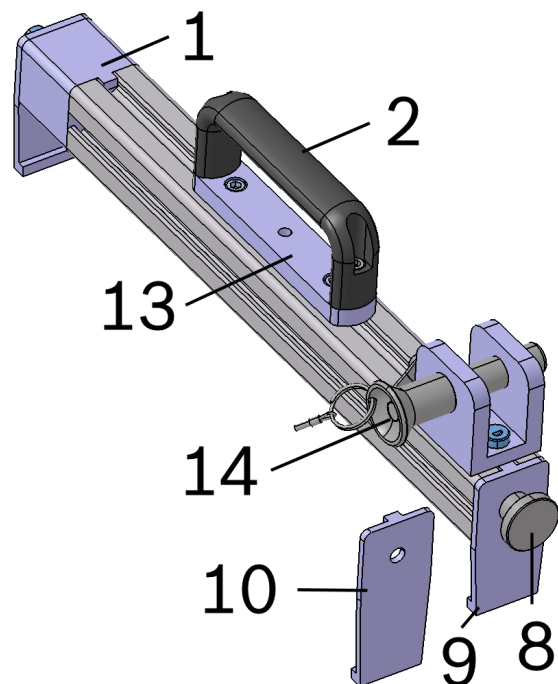

Figure 2: Lifting clamp
2. Lift the battery module by the handle (2) from the battery case by hand (see Figure 2).